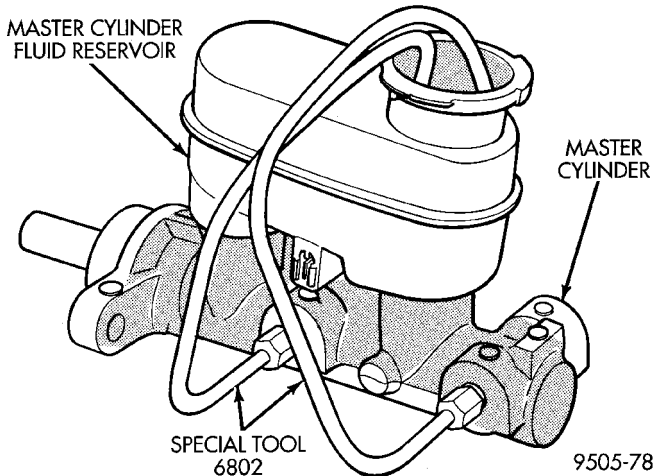
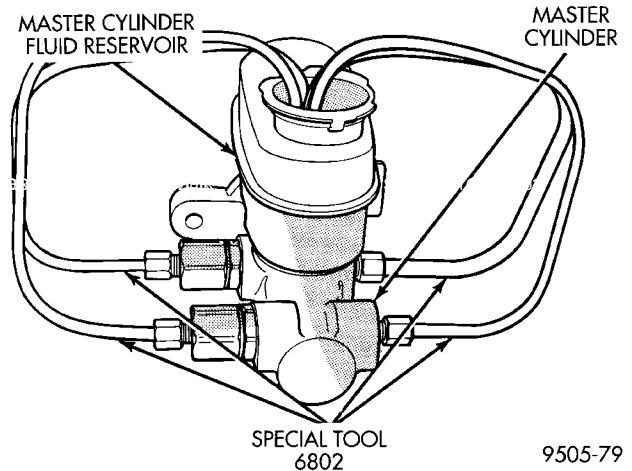

Fig. 106 Bleeding Tubes Attached to ABS Master Cylinder
Fig. 107 Bleeding Tubes Attached To Non-ABS Master Cylinder
(1) Clamp the master cylinder in a vise. Attach Bleeding Tubes, Special Tool 6802 to the master cylinder (Fig. 106) and (Fig. 107). Position tubes so outlets of Bleeding Tubes will be below surface of brake fluid when reservoir is filled to proper level.